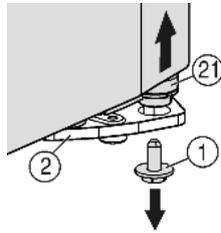
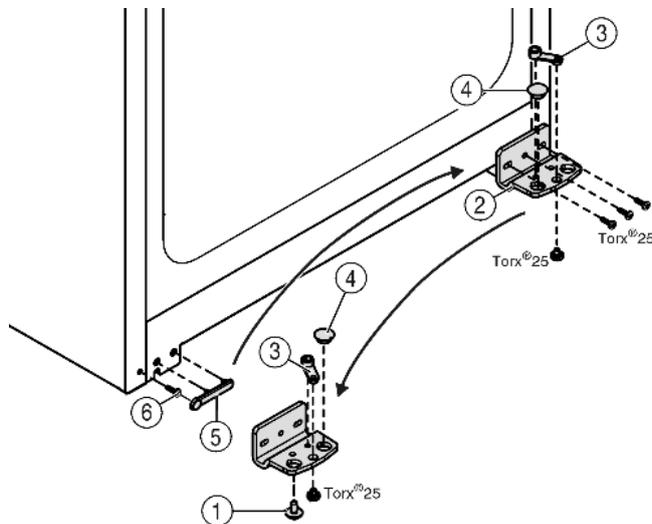

Fig. 5
Fig. 6
- Unscrew the securing screw on the bottom right Fig. 5 (1) turn hinge.
- ▷ The bearing pin Fig. 5 (21) should come out of the turn hinge Fig. 6 (2).
- If the bearing bolt Fig. 5 (21) doesn't undo press it out from underneath.
- Unscrew the turn hinge Fig. 6 (2).
- Unscrew the bearing element, Fig. 6 (3) transfer it to the opposite location hole of the turn hinge and screw it firmly into place.
- Take the stopper Fig. 6 (4) out of the turn hinge and transfer it to the receiving hole on the opposite side of the turn hinge.
- Carefully lift off the cover Fig. 6 (5) on the handle side.
- Undo the screw Fig. 6 (6) and transfer it to the opposite side.
- Put the cover Fig. 6 (5) back on.
- Screw the turn hinge Fig. 6 (2) firmly into place on the new hinge side (**with 4 Nm**), possibly using a power screwdriver.
- Insert the securing screw Fig. 5 (1) at the bottom into the bearing pin and tighten it (**with 4 Nm**).